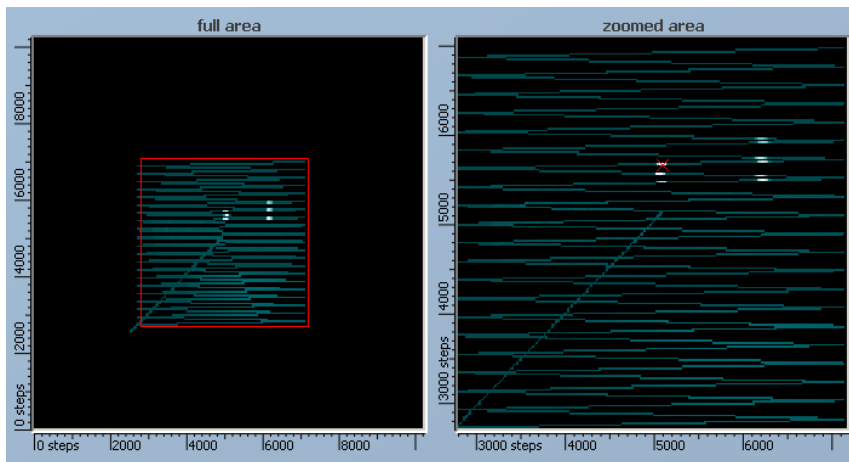

Figure 3.5.3 Manual adjustment on the probe with the two levers. The laser beam is focused on the short lever.
- In the full area field, click and drag the pointer to surround the desired selection and then, release the mouse button to finish the selection. The result is shown in figure 3.5.3.
- Start scanning a selected area with the holder by clicking Scan X. In the zoomed area the image of the cantilever(s) will appear (see to the right field in fig. 3.5.3).